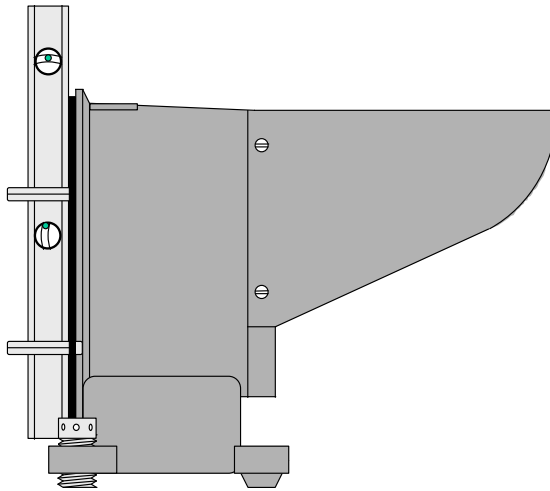

Figure 3-16
- g. Place the level on the rear drum as shown in figure 3-16 and adjust both leveling bushings (turn each one the same amount) until the lantern is level. **This portion of the leveling procedure is the most crucial as it determines the path of the beam over the horizon.**